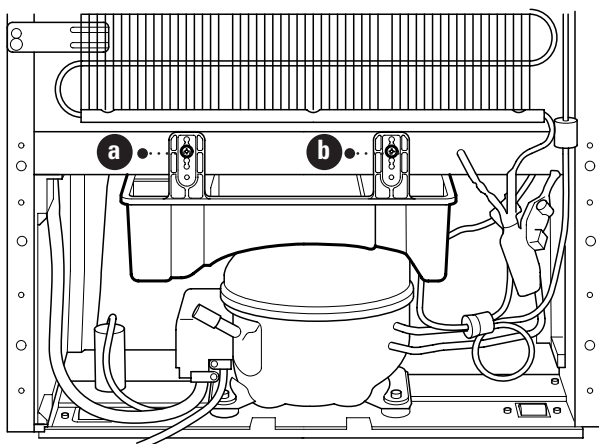

Figure 7
- 1** Remove the vaporisation container by unscrewing the 2 screws (**a** and **b**) (Figure 7)